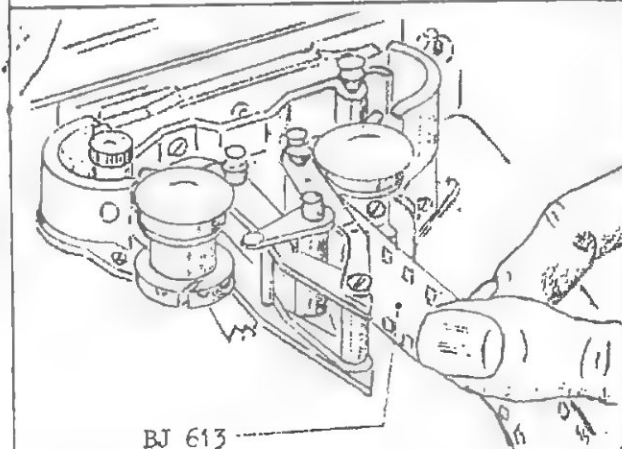

Fig. 2
1.3 Automatic loading (fig. 2)
Preparation as per fig. 2, camera mounted. Disengage the motor clutch, set the lateral release button on R.